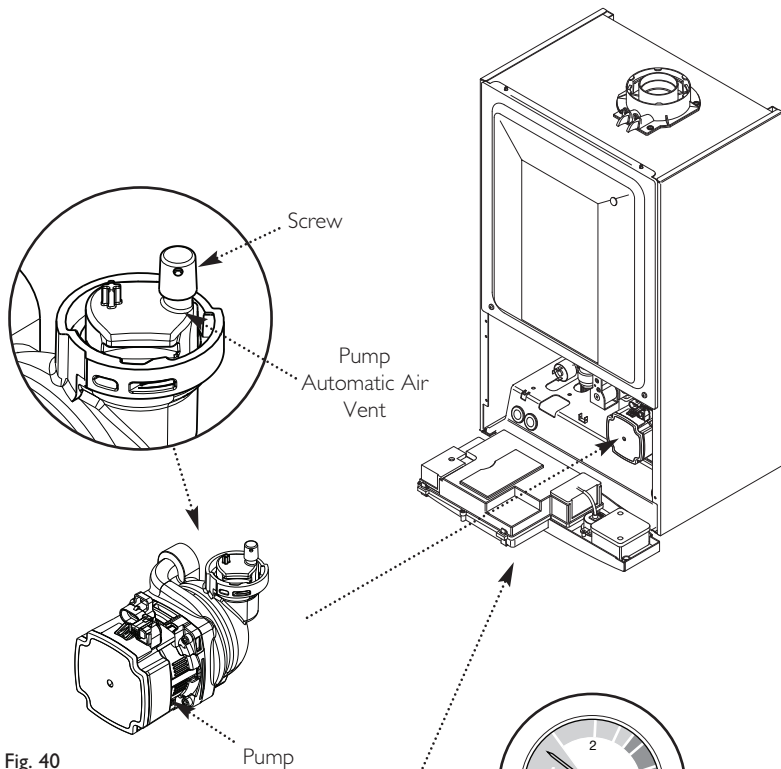

Fig. 40
6. Open the screw on the automatic air vent on the pump body (Fig. 40).